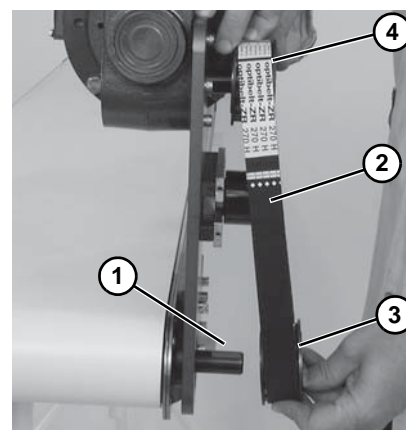

Figure 9
5. Install key (**Figure 9, item 1**).
6. Wrap timing belt (**Figure 9, item 2**) around driven pulley (**Figure 9, item 3**) and drive pulley (**Figure 9, item 4**). Install driven pulley onto conveyor shaft.